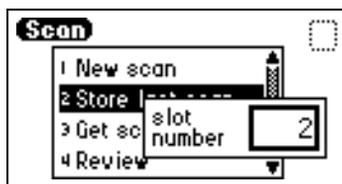

Figure 3-37 Storage Slot Number Box
2. Press **2, Store last scan**. A slot number box appears (Figure 3-37).